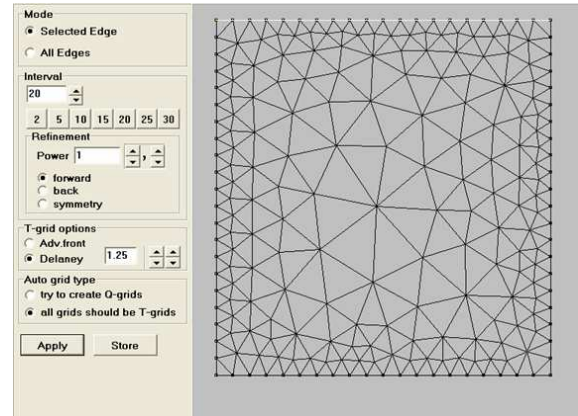

Fig. 38
- ✓ **Delauney.** The Delauney method builds cells by scattering the internal points in the domain (see Fig. 38) using the parameter *Cell Size Ratio* that is specified in the text field located at the right hand side of the of the *T-Grid Options* section. Fig. 38 presents an example of Delauney grid generation for a cell size ratio of 1.30.